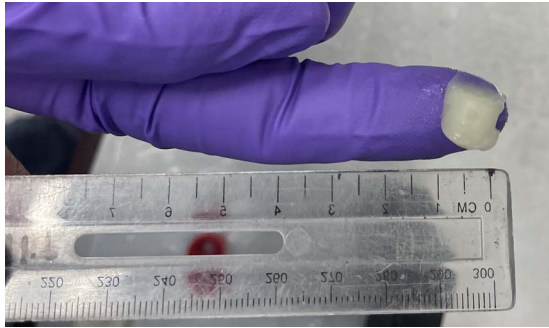

Figure 4 Squeeze lubricant onto fingertip.
- 3 Squeeze a small bead of lubricant onto the tip of your gloved finger (see Figure 4). The bead needs to be approximately 10 mm in diameter.